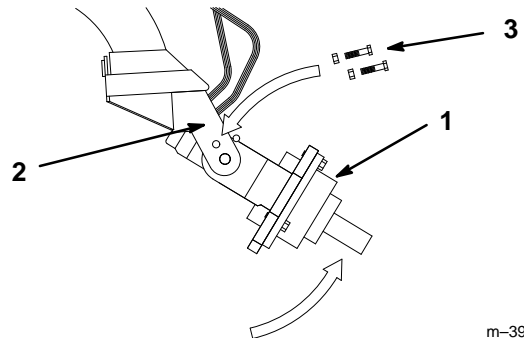

Figure 4
3. Manually rotate the auger drive head up, until you can slide (2) 5/8"–11 x 3–1/2" bolts into the holes on both sides of the cradle arms, securing the drive head. Lightly secure each bolt with a 5/8"–11 nut (Fig. 4).